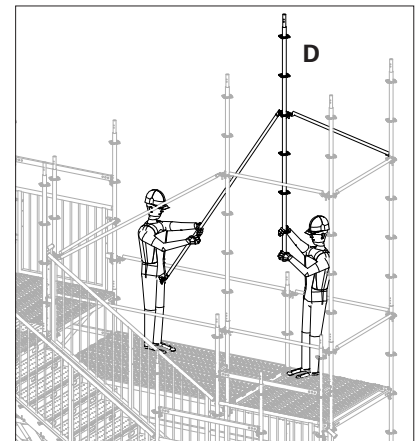

Fig. B3.01d
4. On the final Standard, also attach one end of the remaining Node Brace UBK-2 (**68**) before inserting into position at Point **(D)**. Connect the other end of the Node Brace UBK-2 to the Standard at 1m above the platform level on the previous tower (Fig. B3.01d).